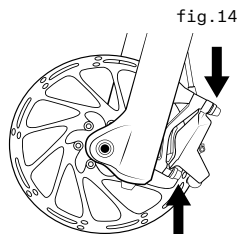
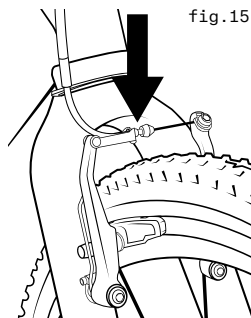

fig.14
fig.15
- 1) If your bike has rim brakes, disengage the brake's quick-release mechanism to increase the clearance between the tire and the brake pads (See Section 4.C fig.14 through 18).
- 1) If you have a multi-speed bike with a derailleur gear system: shift the rear derailleur to high gear (the smallest, outermost rear sprocket). If you have an internal gear rear hub, consult your dealer or the hub manufacturer's instructions before attempting to remove the rear wheel. If you have a single-speed bike with rim or disk brake, go to step (4) below.
- 2) If your bike has rim brakes, disengage the brake's quick-release mechanism to increase the clearance between the wheel rim and the brake pads (see Section 4.C, figs. 14 through 18).
3. Some bicycle brakes, such as disc brakes (fig.14) and linear-pull brakes (fig.15), are extremely powerful. Take extra care in becoming familiar with these brakes and exercise particular care when using them.